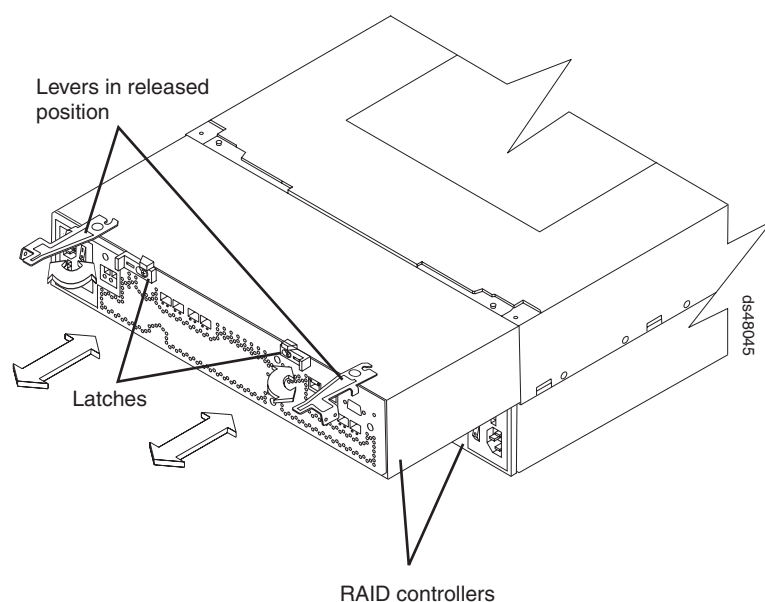

Figure 4. Removing a controller from the DS4800
10. Release the controller levers and remove controller B (bottom controller) from the DS4800 chassis. Figure 4 shows the controller sliding from the storage subsystem chassis. Refer to “Releasing a component lever” in the *DS4800 Storage Subsystem Installation, User’s, and Maintenance Guide* for more information on unlatching and removing the controller from the DS4800 chassis.